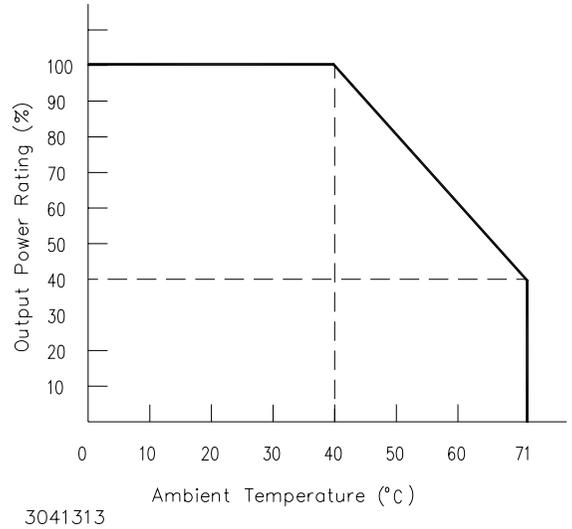

FIGURE 4. % OUTPUT POWER RATING VS. AMBIENT TEMPERATURE
(1) Derates same as Output Power.
(2) See power derating curve, Figure 4.
OPERATING TEMPERATURE: See Figure 4.